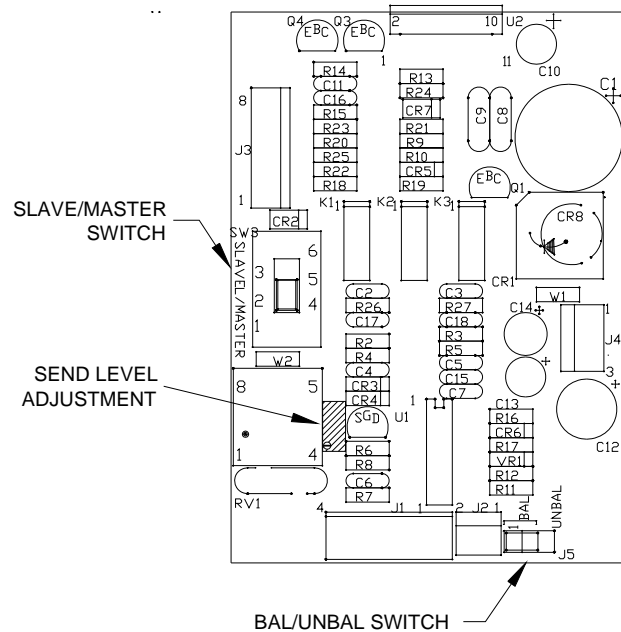

Figure 2. PCBA Outline Detail
5. If operating in an unbalanced cable system, reposition the PCBA's jumper P5/J5 from the BAL position to the UNBAL position. See Figure 2.